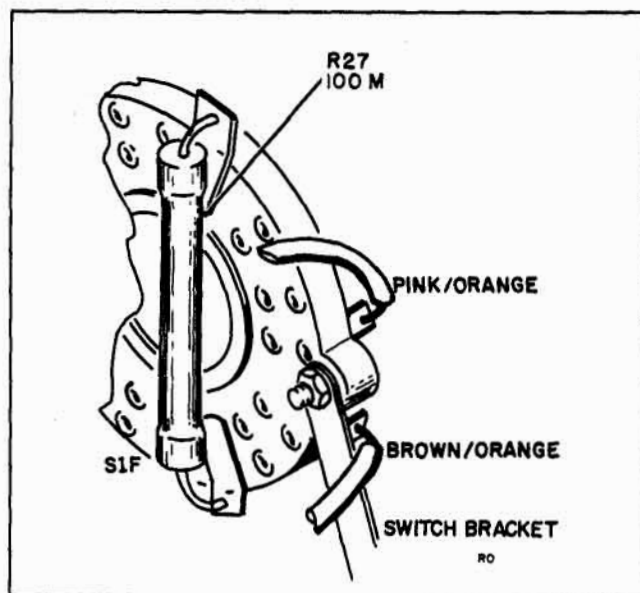

Figure 5. Range Switch Bracket Detail
- ✓ 19) Refer to figure 5. Unsolder brown-orange and pink-orange wires from rear wafer of RANGE switch. Note color code identification of these wires with respect to switch terminals.
- 38) Solder brown-orange wire from junction of C114 (.051  $\mu$ f) and R117 (2.7 megohms) to terminal lug on RANGE switch wafer S1F to agree with figure 5.
- 39) Solder pink-orange wire from R116, BIAS ADJ control, to S1F to agree with figure 5.